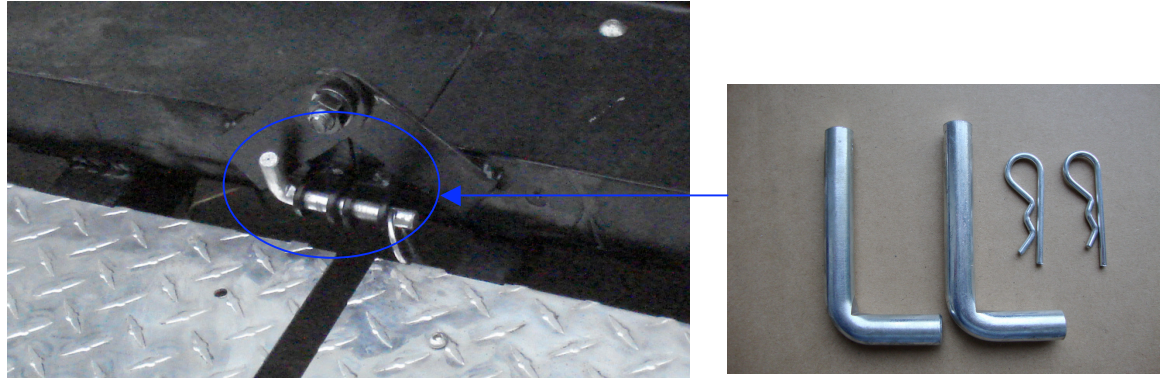

Figure 8-2
2. Use L-Pin (Part# A12) and R-Pin (Part# A18) to connect the Front Channel (Part# A2) and Rear Channel (Part# A3). See Figure 8-2.